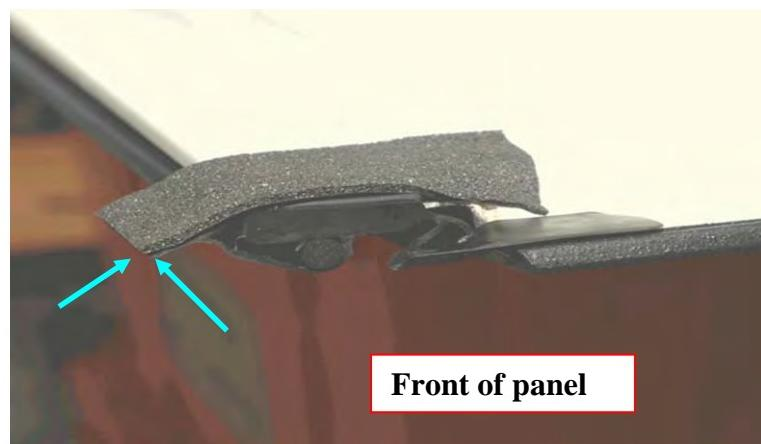

Figure 24
- Install GREY 30 X 75 mm Foam from kit (68026937AB) along trim lines of flame tip (Figure 24)